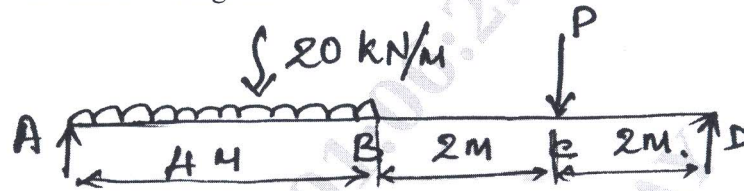

Fig Q5
- 5 Find the magnitude of load P such that magnitude of support reactions shown in Fig Q5 are equal. Also draw SF and BM diagram.